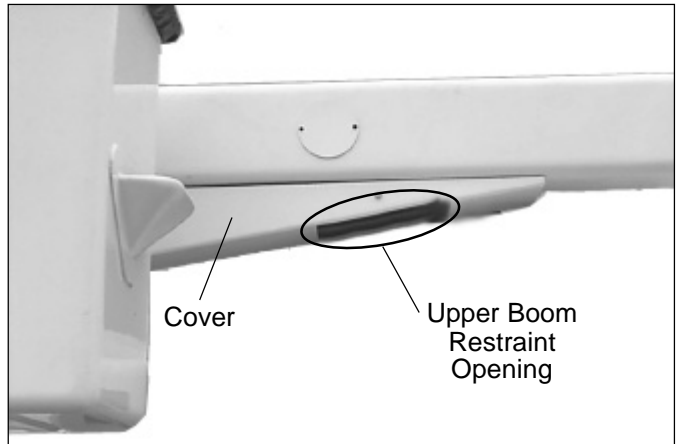

Figure 2 — Cover Opening
3. Place a straight edge tool across the opening of the upper boom cover where the upper boom restraint is located (refer to Figure 2). The straight edge should be positioned at a 90 degree angle to the boom.